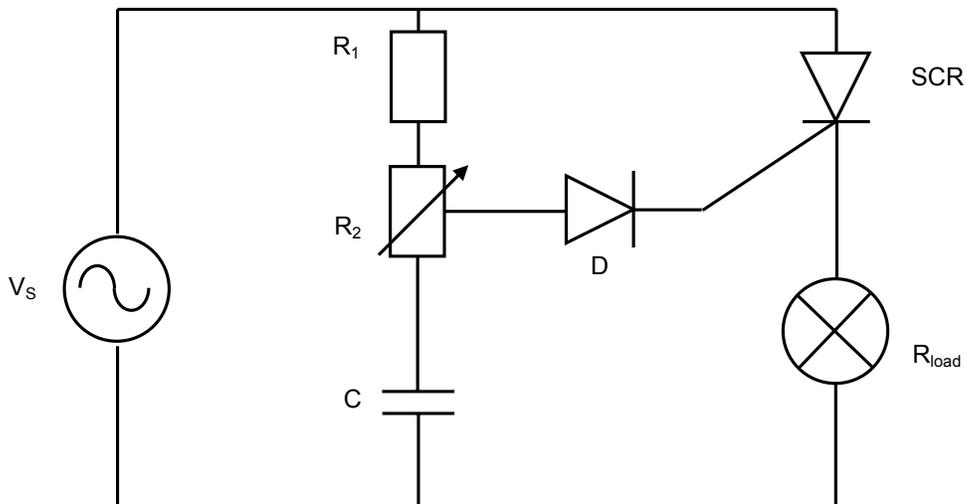

FIGURE 6.1 – SCR LAMP DIMMING CIRCUIT
6.1 The circuit diagram shown in FIGURE 6.1 makes use of an SCR to control the brightness of a lamp. The circuit is connected to 240 V/50 Hz mains supply. Explain the basic principle of the operation of the circuit.